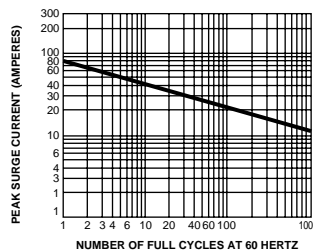

Figure 2
**Maximum Surge Current (peak):** 80 Amps at 60 Hz, 1 cycle; 25 Amps at 60Hz, 60 cycles as qualified by Figure 2.